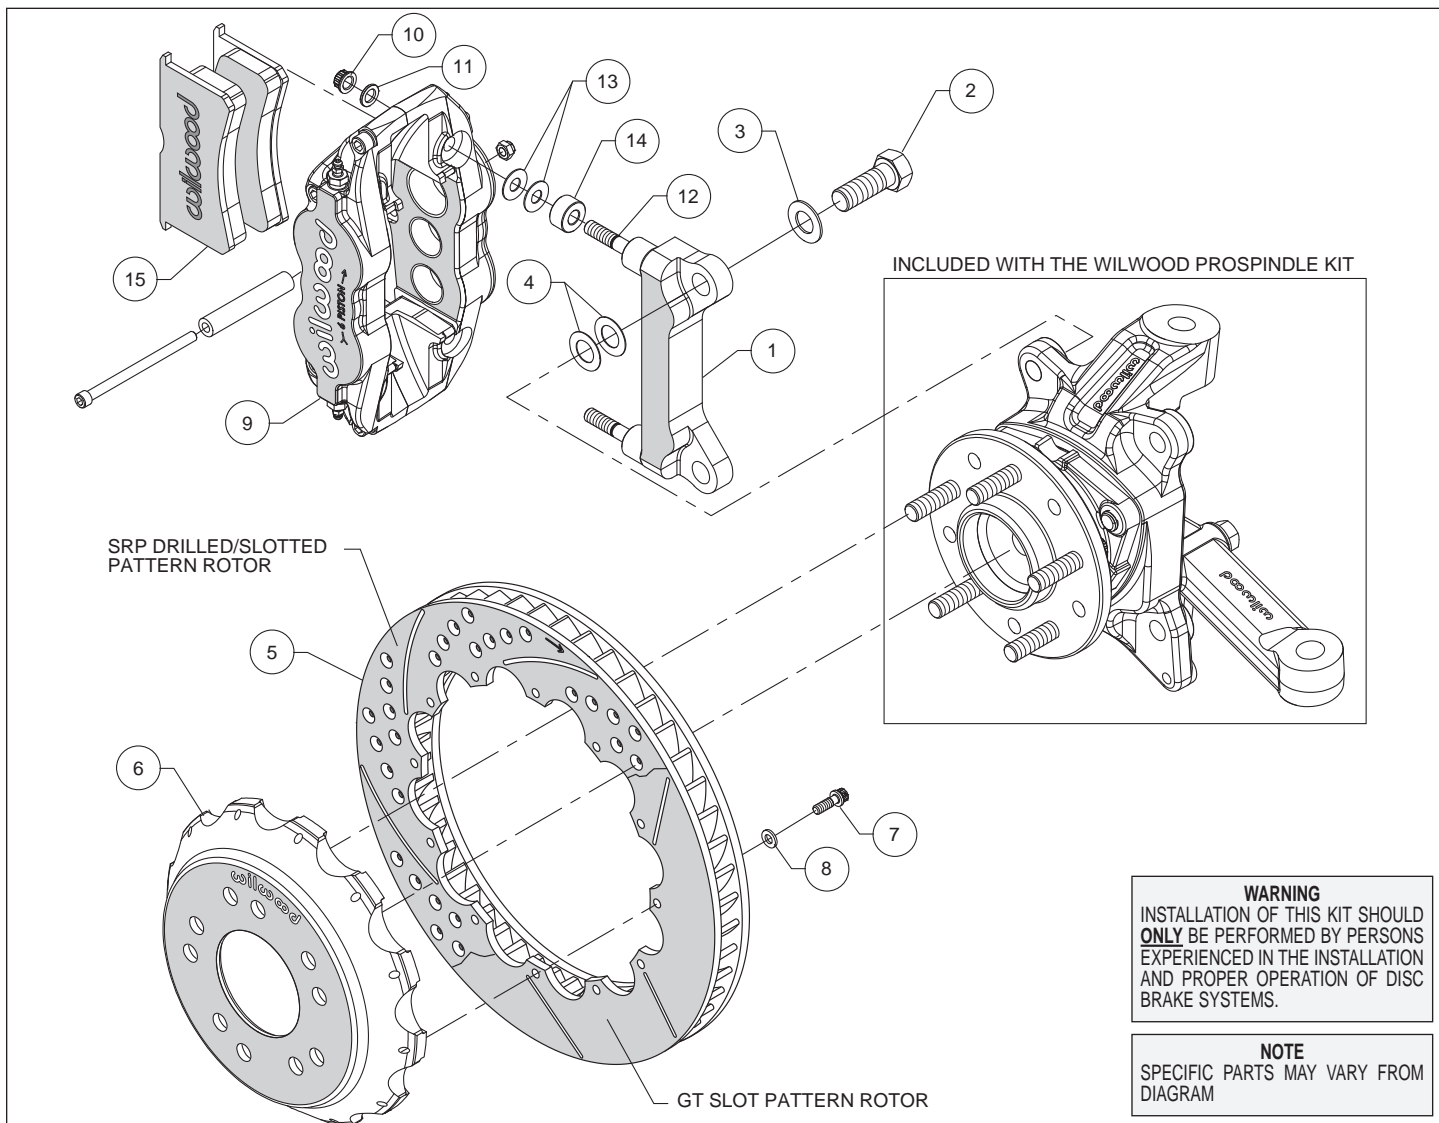
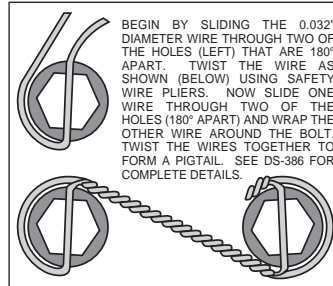

Figure 1. Typical Installation Configuration
Figure 3. Safety Wire Diagram
Assembly Instructions (numbers in parenthesis refer to the parts list and Figure 1 on the preceding pages):
- The caliper mount bracket (1) should initially be installed with clean, dry threads on the mounting bolts. Orient the bracket as shown in Figure 1 and Photo 1 and install using mount bolts (2) and washers (3). Initially place two .024" thick shims (4) on each bolt between the bracket and spindle, Figure 1. Temporarily tighten the mounting bolts. **NOTE:** The bracket must fit squarely against the mounting points on the spindle. Inspect for interference from casting irregularities, machining ridges, burrs, etc. Later, after the caliper alignment has been checked, the mount bolts will be secured using red Loctite® 271.
- Orient the rotor (5) and the hat (6) as shown in Figure 1 and Photo 2. Attach rotor to hat using bolts (7) and washers (8). Using an alternating sequence, apply red *Loctite*[®] 271 to the threads, and torque to 155 **in-lbs**. For an added measure of security, the bolts may be safety wired using standard 0.032 inch diameter stainless steel safety wire as shown in Figure 3. Please refer to Wilwood's data sheet DS-386 for complete safety wire installation instructions.
- **NOTE:** *This kit contains distinct right and left hand calipers that must be mounted in a specific direction, as described below.* Lubricate the caliper mounting studs (12) with lightweight oil. Initially place two .035" thick shims (13) and one spacer (14) on each stud between the caliper and the bracket, as shown in Figure 1 and Photo 5. Mount the caliper (9) onto the bracket (1) using lock nuts (10) and washers (11), Figure 1. Ensure that the caliper is mounted so the largest pistons are at the rotor exit end of the caliper, in relation to the direction of rotor rotation. Temporarily tighten the lock nuts and view the rotor through the top opening of the caliper. The rotor should be centered in the caliper, Photo 6. If not, adjust by adding or subtracting shims (4) between the bracket and the spindle. Always use the same amount of shims on each of the two mounting bolts. Once the caliper alignment is correct, remove the bracket mounting bolts one at a time, apply red *Loctite*[®] 271 to the threads, and torque to 140 ft-lb.